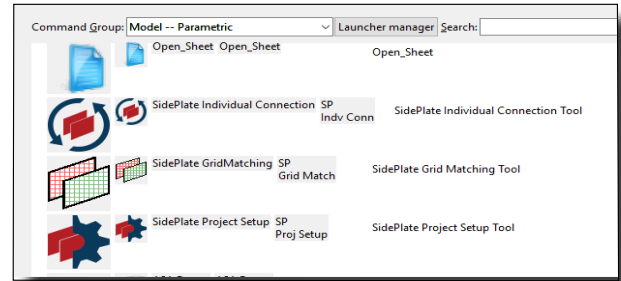

Figure 1: Toolbar Configuration
2. Select **Model -- Parametric** for the **Command Group**, as shown in Figure 1.